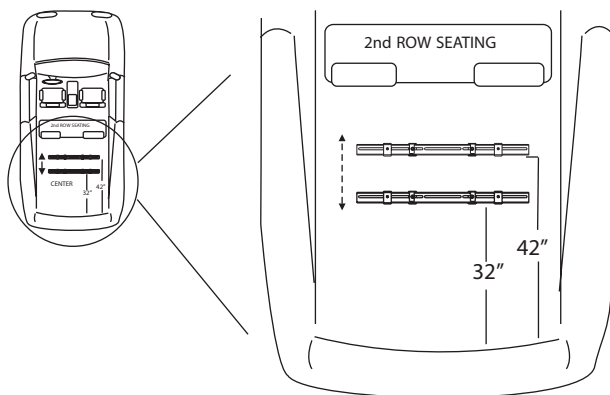

Figure 4-8
2. The AL600 Leg must be mounted between 32" and 42" from the internal surface of the closed back door of the vehicle. *See Figure 4-8.*